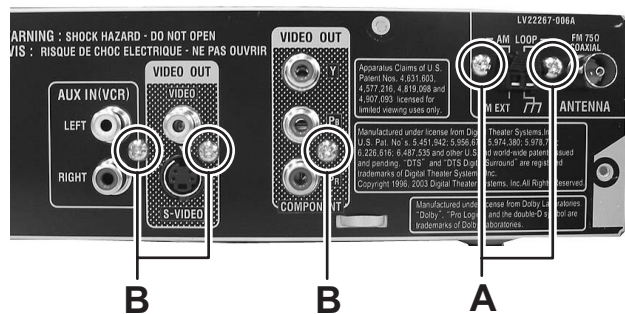

Fig.2
- (4) Remove the three screws **B** attaching the video board from backside of main body. (See Fig.2)